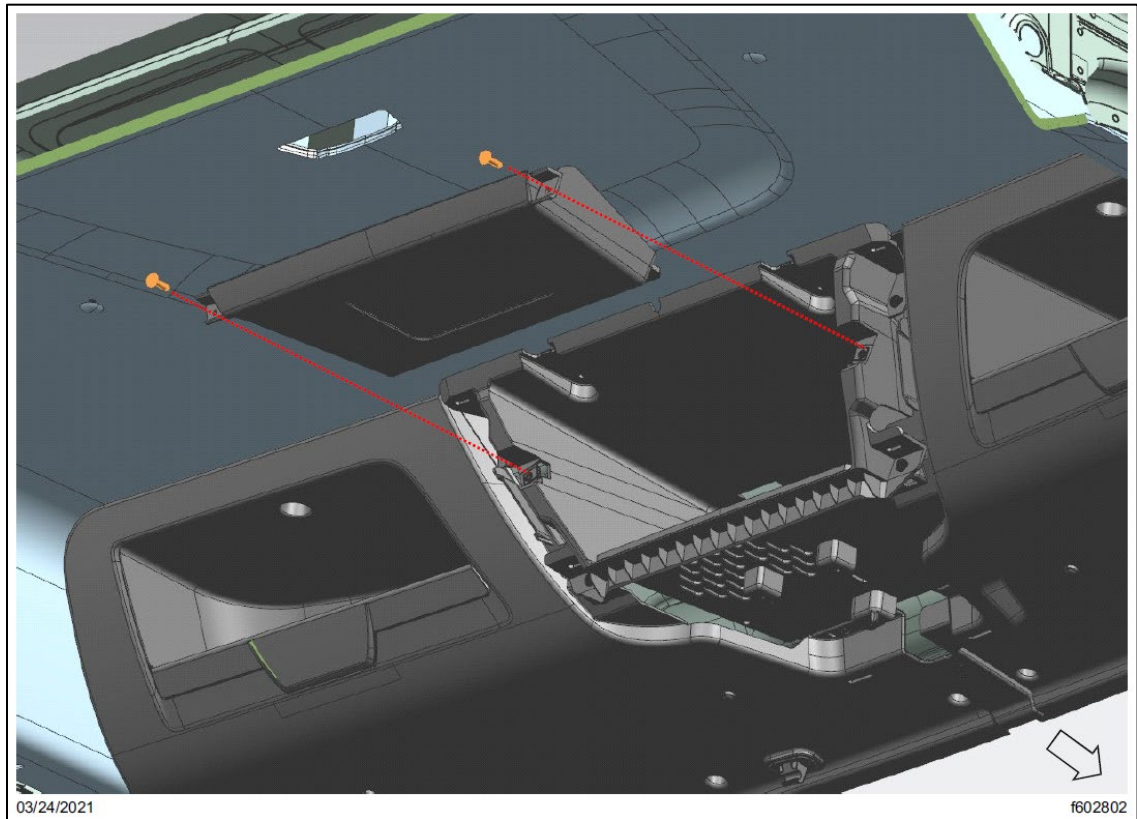

Fig. 16, Center Shelf Removal
- 2.3. Remove the two fasteners that attach the center shelf to the center storage bin, and then remove the center shelf from the vehicle. See Fig. 16.